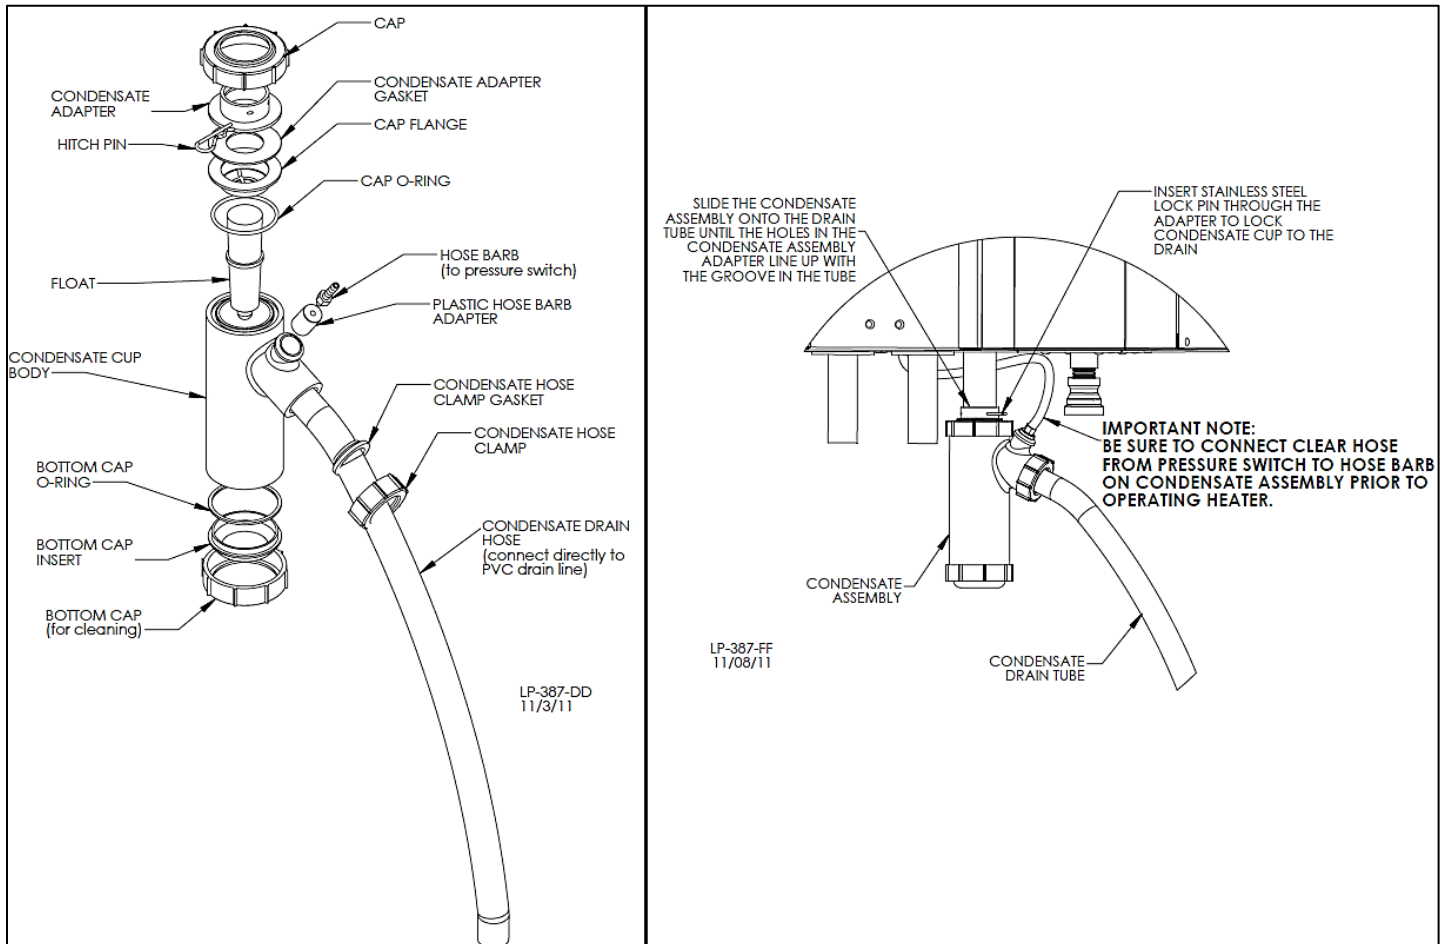

Figure 15-1 - Condensate Detail, 15-2 – Condensate Trap Installation
1. Ensure all parts shown in Figure 15-1, Condensate Detail, are included with the condensate trap. If any parts are missing, **DO NOT** install the trap. Replace the entire condensate assembly.